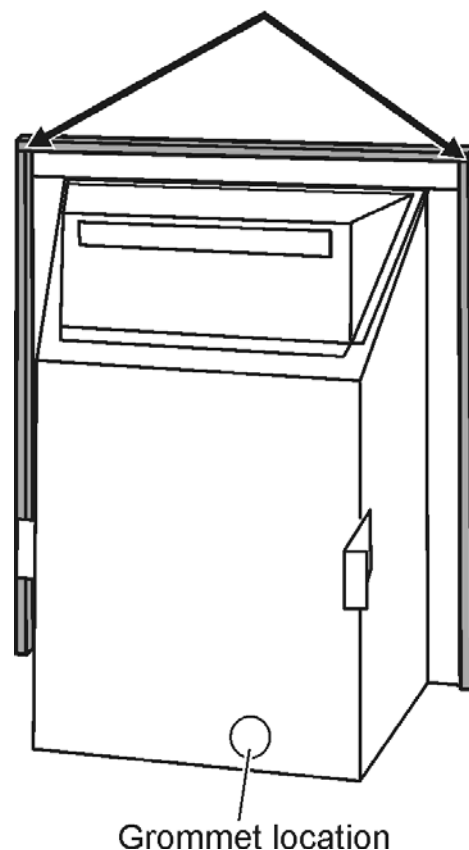

Figure 18. Fitting the foam seal
5. It is important that the grommet supplied in the loose parts pack is fitted to the hole in the rear of the convection box (See figure 18).
8. There is a length of self adhesive foam seal supplied with the fire. This will need to be fitted to the outer rear edges of the side and top flanges of the convector box. Cut a 485mm length of foam seal. Be careful not to stretch the seal when measuring. Remove the protective backing from the foam seal and fit this to the rear of the top flange (See figure 18). Cut two 580mm lengths. Fit these to the rear outer edges of the side flanges. Ensure that there is no gap between the foam seals where they meet at the top flange (See figure 18).